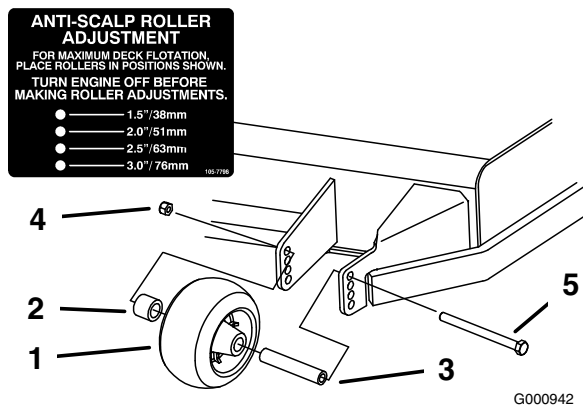
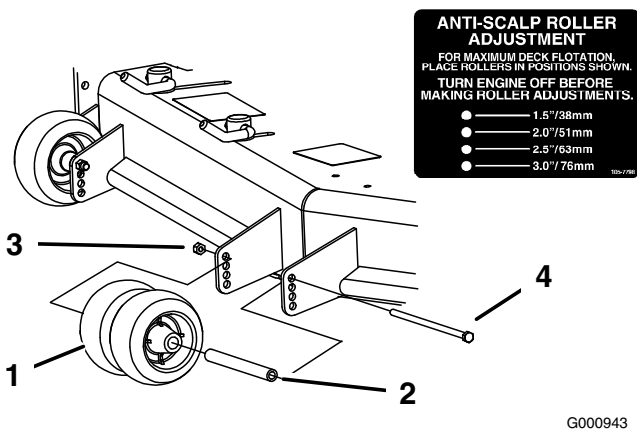

Figure 17
Figure 18
3. After adjusting the height-of-cut, adjust the rollers by removing the flange nut, bushing, spacer, and bolt (Figure 17 , Figure 18 and Figure 19).
Note: The two middle rollers will not have a spacer (Figure 18).
5. Install the flange nut bushing, spacer, and bolt. Torque to 40-45 ft-lb (54-61 N•m) (Figure 17 , Figure 18 and Figure 19).